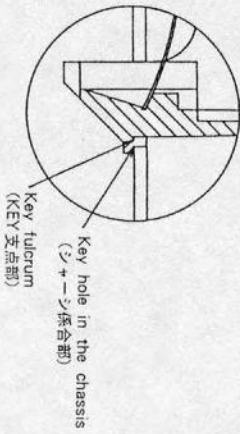

Fig. 4
2. Pulling the key in the direction of arrow 2, disengage the key fulcrum from the chassis. See Fig. 3 and Fig. 4 for disengage status.